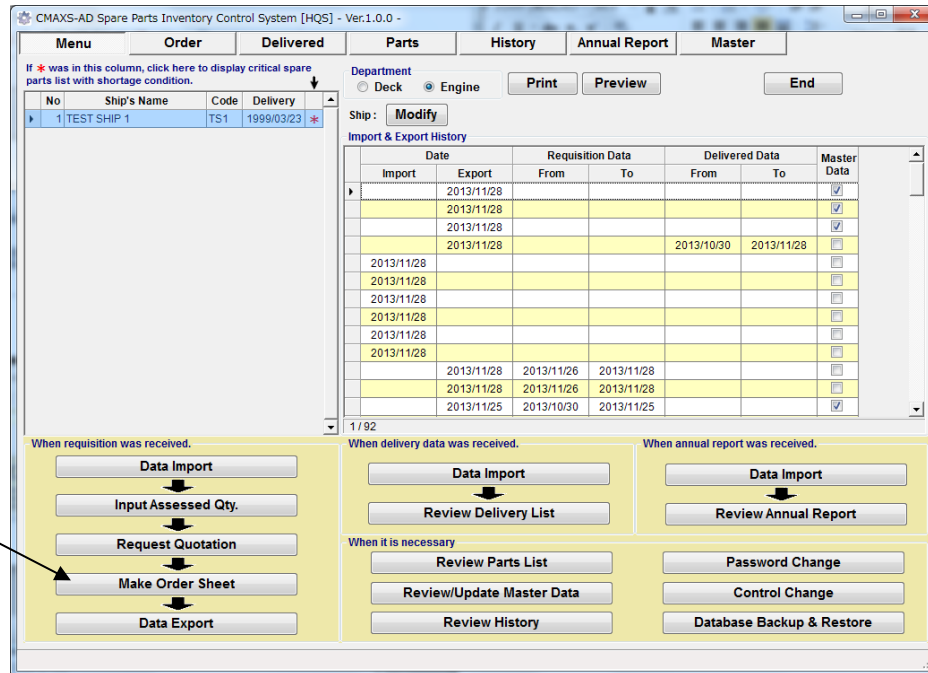

Fig.8-1 Menu Screen
- (1) On the "Menu Screen"(Fig.8-1), select [Make Order Sheet ].
- (8) Click [▼], and select supplier from drop down list.
- (9) Supplier can be set maximum 10 suppliers.
- (10) After select supplier, put check mark only you need item for order sheet
- (11) After select supplier, check [ ] option button to make order sheet by Excel.
- (12) Select [Export], then Save as dialog is displayed.
- (13) Select "OK" button, then order sheet can be made by Excel.
- (14) Send order sheet to supplier.
- (15) Select [Menu], then return to "Menu Screen"(Fig.8-1).
- (16) On the "Menu Screen"(Fig.8-1), select [Data Export] so as to send order sheet to shipboard.